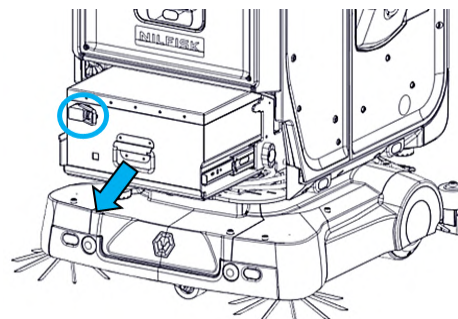

FIGURE 14-2
2. Disconnect the battery plug from the battery by pulling the handle on the battery plug. One may have to pull firmly **(Fig. 14-2)**.
3. Lift the battery tray latch and at the same time, pull the battery handle towards the front of the machine, the battery tray will slide out **(Fig. 14-2)**.